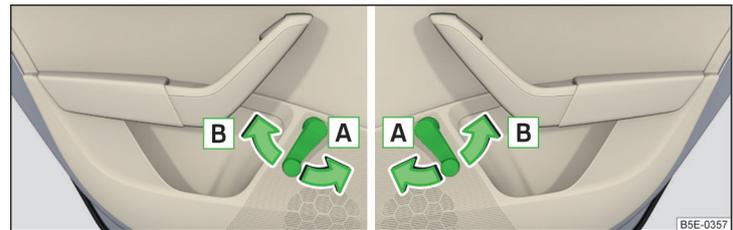

Fig. 41 Window operation: Left/right
- To open, turn the crank in the direction of arrow **A** » Fig. 41.